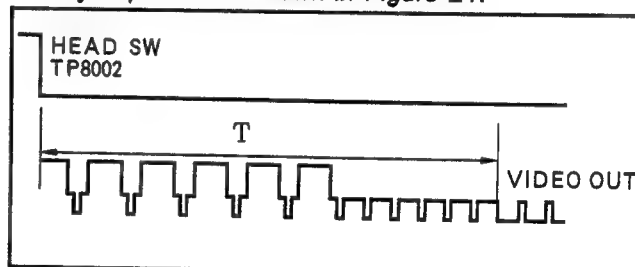

Figure E1
3. Adjust VR2002 so that the falling edge of switching pulse becomes $8.5 \pm 0.5H$ before the V-sync portion as shown in Figure E1.